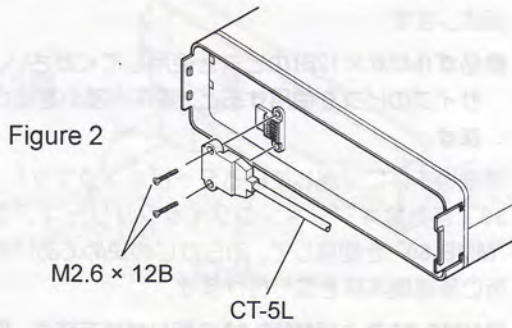

Figure 2
3. Referring to Figure 2, use the supplied machine screws (M2.6 X 12B) to mount the mating end of the CT-5L controller extension cable (the end with flat contacts) over the contacts on the main front panel.